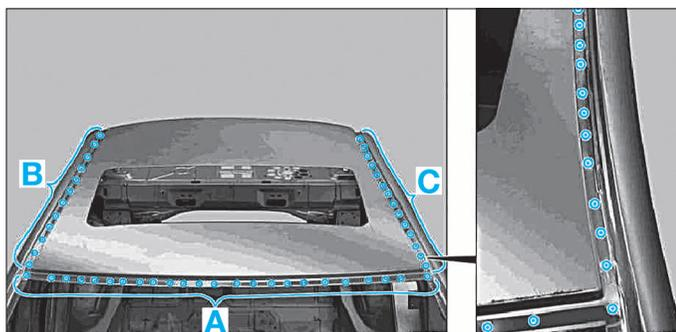

FIG. 121
- zones (A), (B) et (C) (Fig.121).